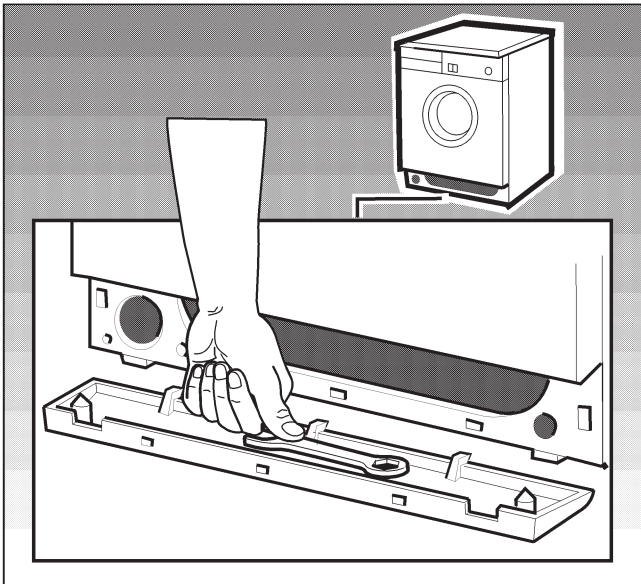

Figure 15.
2. Press the wrench into the formed holder on the inside of the kick panel. See Figure 15.